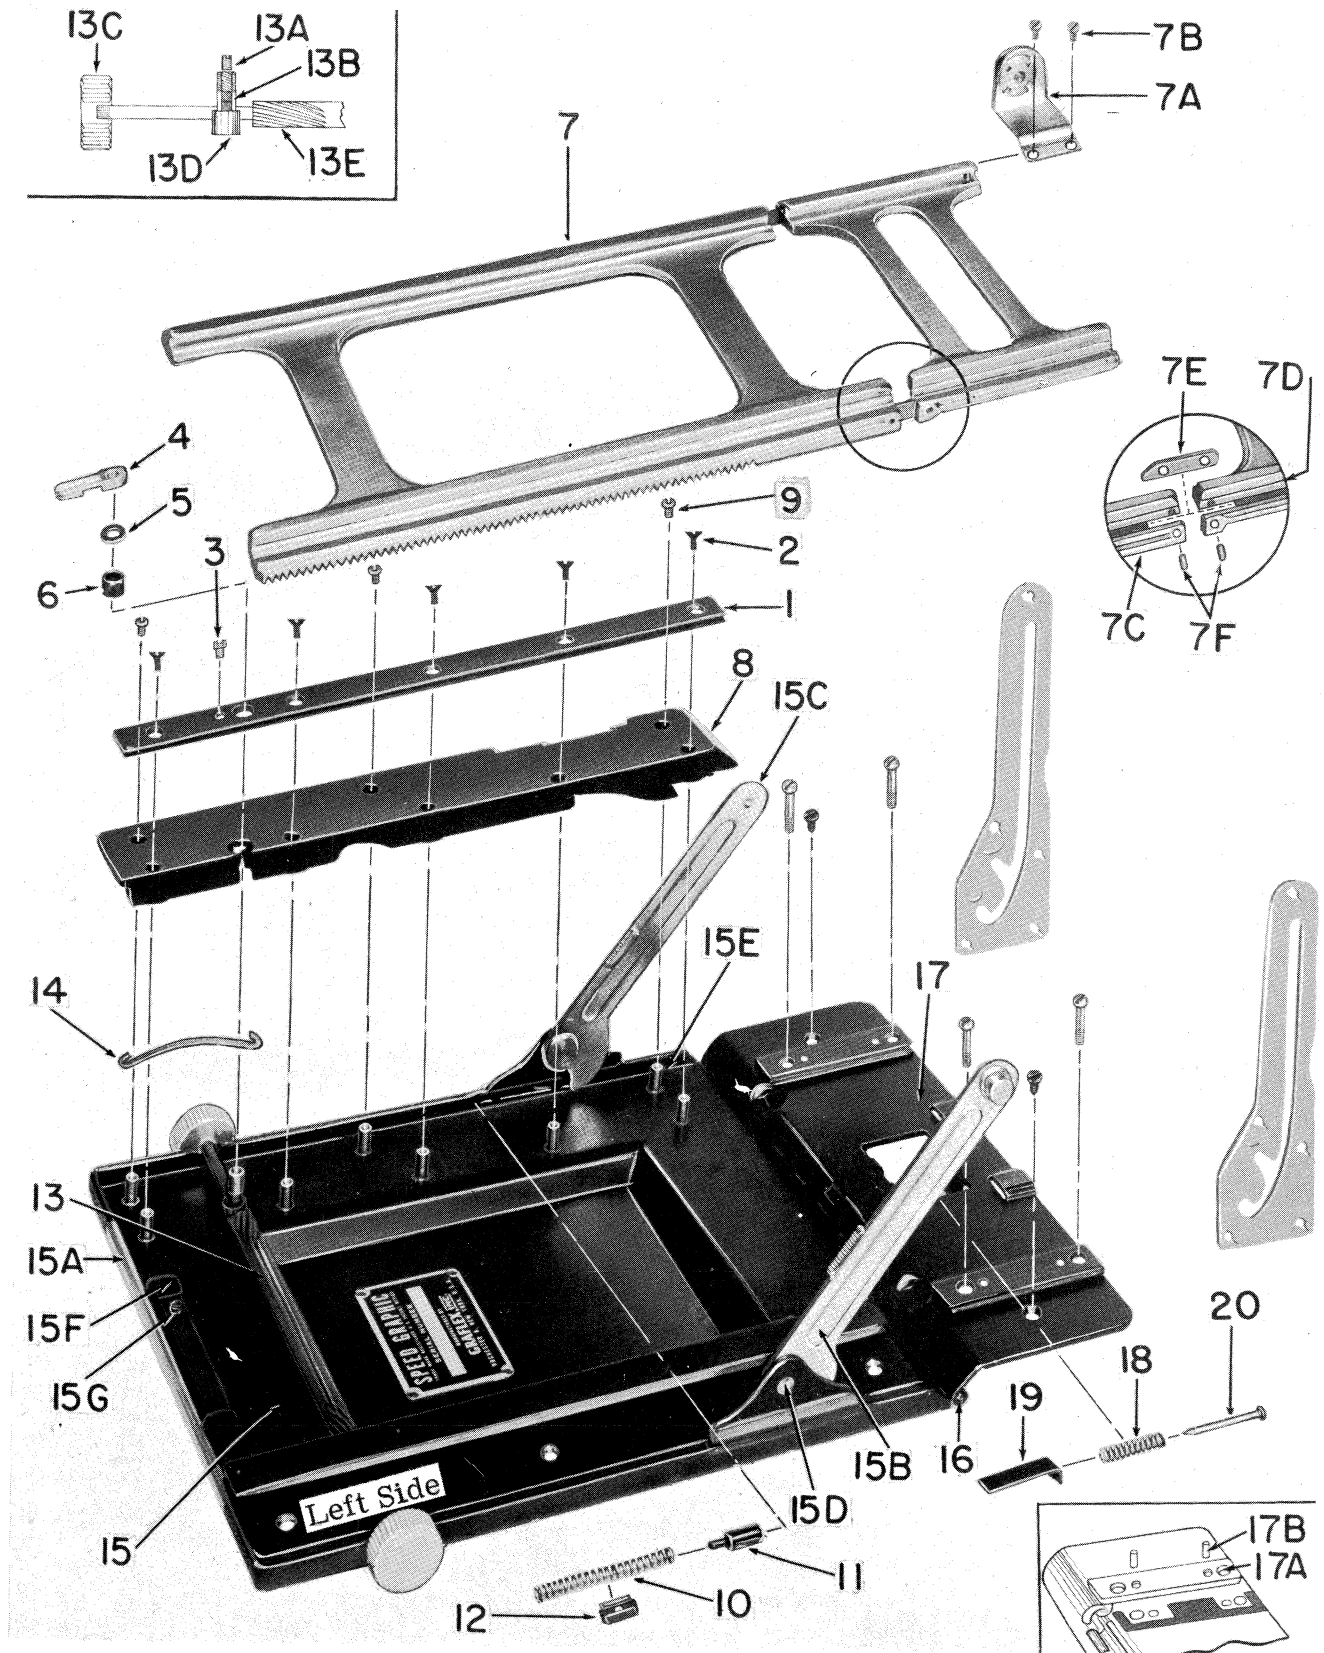

Figure 9. "34" and "45" Graphic Bed, Exploded View
(b) On "34" and "45" cameras: Remove the bed section guide (1, figure 9) by removing machine screws (2).
(d) Rack the yoke assembly (7, figure 9) forward until the rear case yoke section is free of the hinge guides. Lift the yoke assembly (7) from the bed.
(e) On "45" cameras: Remove block screws (9, figure 9) from the bed block (8). When the bed block is lifted from its position care should be taken so that the bed brace spring (10) does not throw and lose the bed brace plunger (11).
(g) On "34" and "45" Graphic beds: Swing the yoke lock lever (4, figure 9) clockwise so that the special fillister head screw (3) can be removed. Unscrew the yoke lock lever (4). Remove the flat washer (5) and the yoke lock sleeve (6).
(a) Wipe the sliding grooves of the case section guide (17A, figure 9) with a film of grease, AN-G-6.
Pinion assembly (13, figure 9): Place a reasonable amount on helical gear teeth and wipe small diameter of shaft.
Yoke assembly (7, figure 9): Wipe guide edges and place a reasonable amount on gear teeth. Roll pinion over to distribute grease in bottom teeth and wipe off excess.
Guide, right and left bed section (1, figure 9): Wipe sliding groove.
(a) Assemble the right bed section guide (1, figure 9) and attach with machine screws (2).
(b) Position the left bed section guide and assemble machine screws (2, figure 9 and 10).
(c) With the bed section guide screw (2, figure 9) loosened on both sides, slide the yoke back so that the case section will partially engage in the case section guide (17A). This will center the front section in relation to the case section. Draw both bed section guides (1) together evenly with the fingers and tighten the guide screws (2) on both sides.
(c) Next check the top surface of the yoke assembly (7, figure 9). If the top surfaces of the yoke guide are not level, the front standard will not slide smoothly on the yoke. If necessary, shim the case section guide as follows: